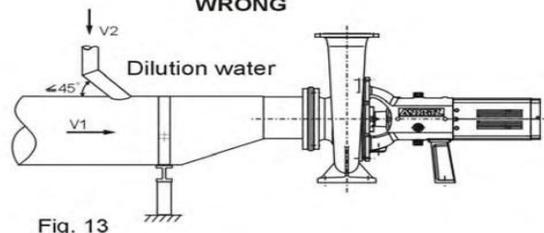

Fig. 13
- If a dilution-water pipe is connected with the inlet pipe, the flow in the medium pipe (V_1) should be bigger or equal than the flow in the water pipe (V_2). The connecting angle between the dilution water inlet and the medium pipe should be smaller or equal than 45° (Fig.13).